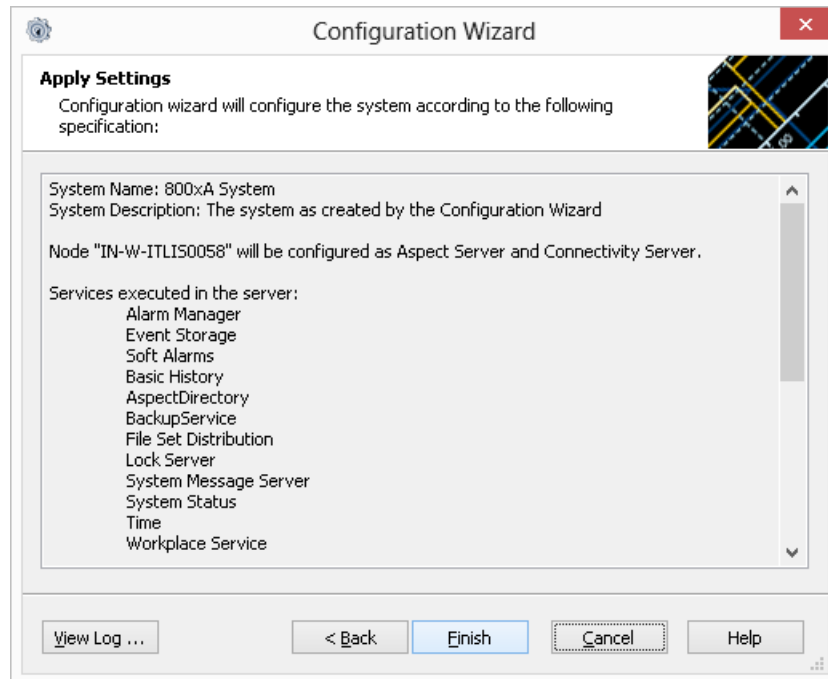

Figure 14. Apply Settings Dialog Box
7. Verify your settings in the Apply Settings dialog box, see Figure 14.